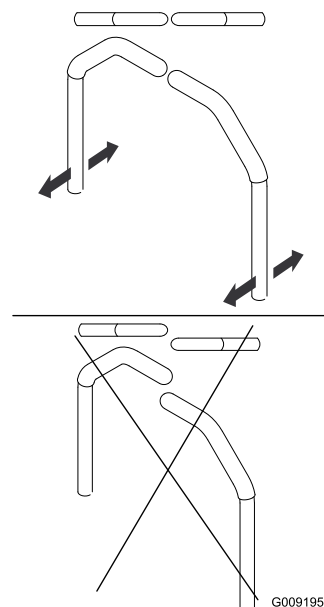

Figure 65
4. Align the levers in the front-to-rear position by bringing the levers together to the NEUTRAL position, and slide them until they are aligned, then tighten the bolts (Figure 65).